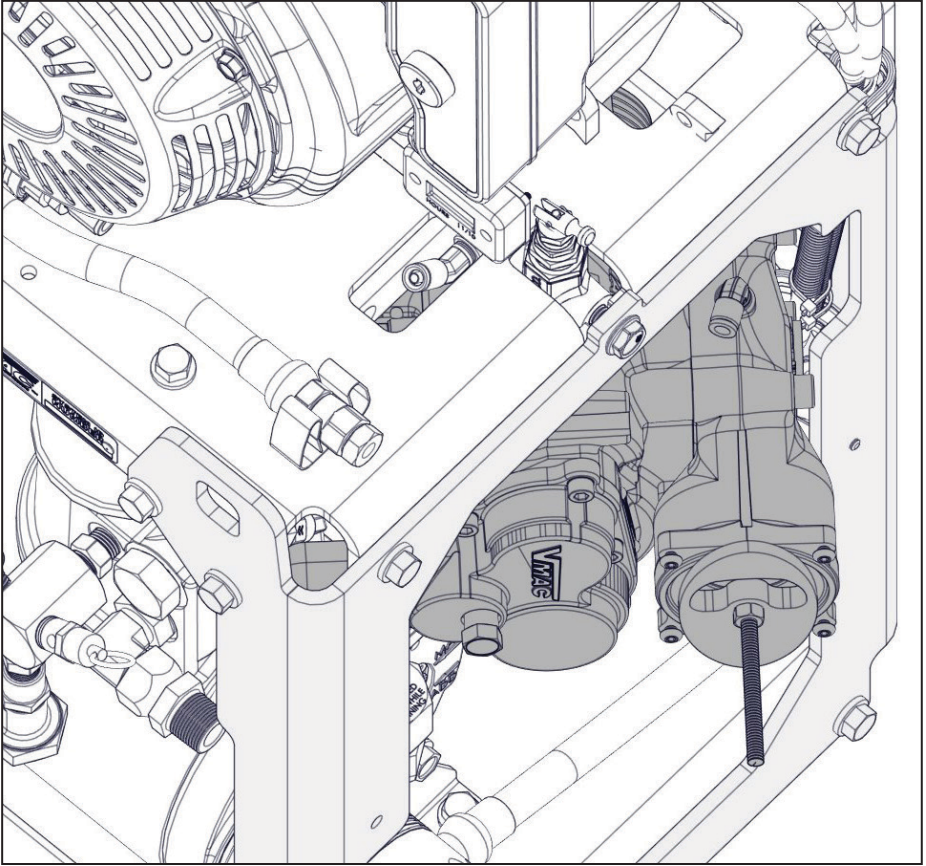

Figure 67 — Remove compressor
- Pull the compressor out from the side of the unit to remove it (Figure 67).